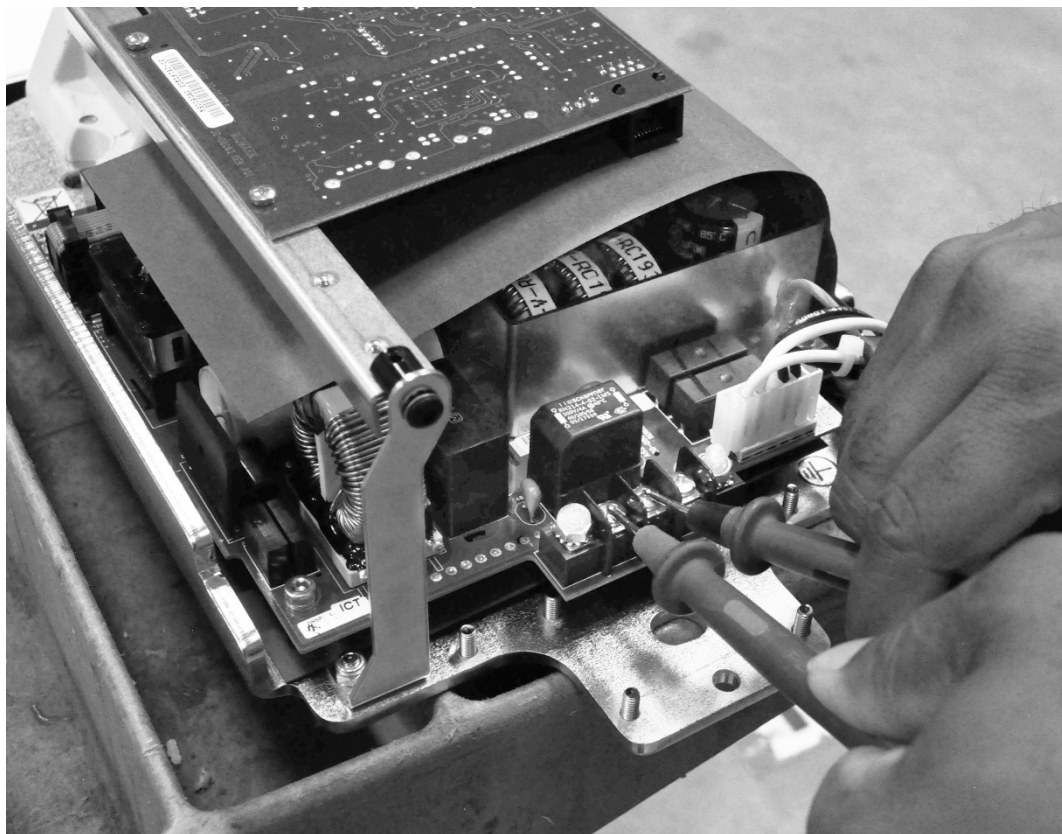
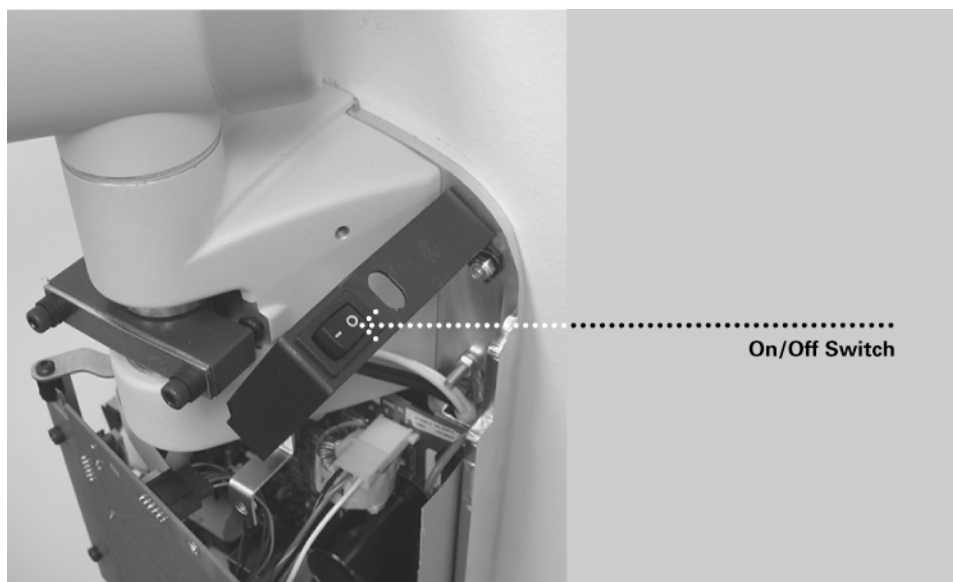

Figure 32
Figure 33
3. Turn on the Preva Dental X-ray System using the power switch, as shown in *Figure 32*. On the Operator Panel, *Figure 33*, the product display screen will be displayed showing the software version. Then the Operator Panel will display the default technique factors.
3. Turn off the Preva Dental X-ray System using the power switch as shown in *Figure 32*.